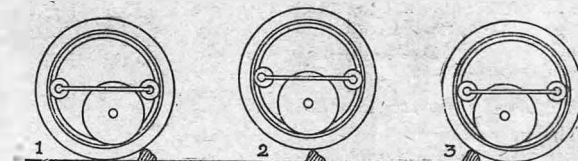
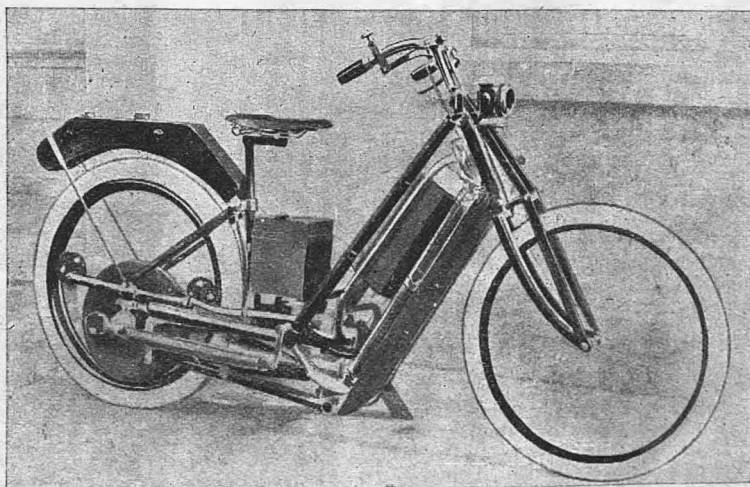

Fig. 2. Diagram Illustrating Action of Ring Tractor.
Fig. 1. Crowden's Rail-Ring Tractor Motor-bicycle.
They are enclosed in an aluminium dust-tight case with lubricator for motorcars, and are capable of furnishing sufficient current for starting and maintaining a motor engine of one or several cylinders as easily as with a battery, and giving a practically steady current for that purpose, as well as for lighting lamps, even at great variation of speed. There is also a patent appliance specially for charging cells, so that a storage cell can also be used (although not absolutely necessary). The dynamo is intended to be sent out to give a practically constant voltage of 5 (unless otherwise ordered), which the makers have found to be the most suitable for the purpose of working the coils, charging the two accumulators, or running the small side lamps. Fig. 1 shows an end view of dynamo, and Fig. 2 is a side view, partly in section, and the following is a brief description from the Patent specification:—The field magnet is fixed on the shaft (a), which is driven by a friction pinion pressing on the fly-wheel of the engine. The armature (d) is free on the shaft (a), and has on it a pinion (e), which gears with the wheel (f) and is used for starting only. The friction pinion (h) is the means of imparting speed to the armature, as in starting a motor engine, and is brought to bear with fly-wheel by a movable arm and removed from it when motor is started. As the arm is connected either to the compression tap or advance spark lever, it becomes practically automatic, the variation of speed when motor is running being entirely regulated by the revolving field magnets and its centrifugal pole pieces. If a battery is used in connection, no speed gear is necessary, as the battery starts the engine, while the dynamo charges the battery, or will run the engine without the battery when started. It is very easily fixed, as only two wires run from the machine to the battery. The dynamo acts as an automatic switch, and will only deliver current to charge, or for firing the engine when pole pieces are slightly diverged or when voltage is correct for that purpose. The contact parts are clearly shown at (n-p) in both figs. The machine is made with and without starting gear, at £4 and £5 respectively.
The illustration (Fig. 1) represents an old Wolfmuller motor-bicycle converted, to test the principle of the rail-ring tractor, as applied to cycles. This machine, which was originally driven by small back wheel direct, has now been substituted by a small heavy fly-wheel running in a rim without any spokes, held in position by two guide rollers extended with springs. The invention, the makers claim, overcomes the difficulties of driving direct, rendering the use of gears, chains and bands unnecessary. The arrangement also permits of great elasticity in running over rough ground and obstacles. The vibration of the engine and shock are not felt by the rider in any way, and with this driving arrangement a spring frame is not required. The machine was only adapted for experimental purposes; to test the system which up to now, the makers say, has given excellent results.
Fig. 2 shows the action of the rail-ring in practice. (3) shows the rail-ring meeting an obstacle. It will be seen that the fly-wheel slightly runs up the incline of the ring, and the obstacle, displacing the centre of the ring,